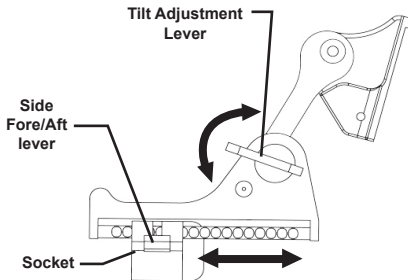

Figure 5-2. Tilt and Flip-Up Assembly Mechanisms
3. Place the PVS-7 in the socket of the helmet mount. (See Figure 5-2.) Set your eye relief by depressing the side button and carefully move the goggles fore or aft until the eyecups comfortably seal around the eyes. Readjust the helmet straps as required for vertical adjustment.
4. Turn power switch to ON. Adjust the tilt by using the tilt adjustment lever (Figure 5-2) until you obtain a comfortable viewing angle.
8. Adjust the eye relief distance by pressing the side button (See Figure 5-2) and sliding the PVS-7 fore or aft to obtain a full field of view of the image. Readjust the diopter rings for the best image.